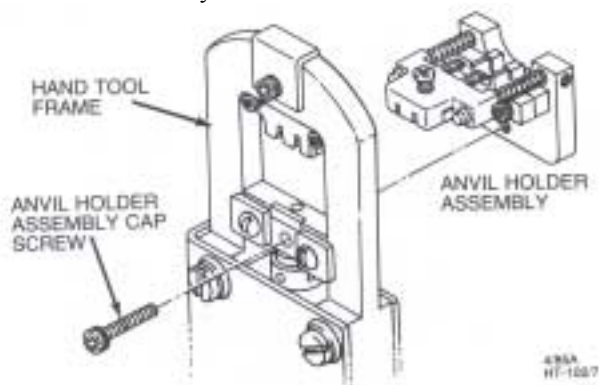

Figure 6
- 1 Remove the cap screw securing the anvil holder assembly to the hand tool (see Figure 6) and then remove the anvil holder assembly.